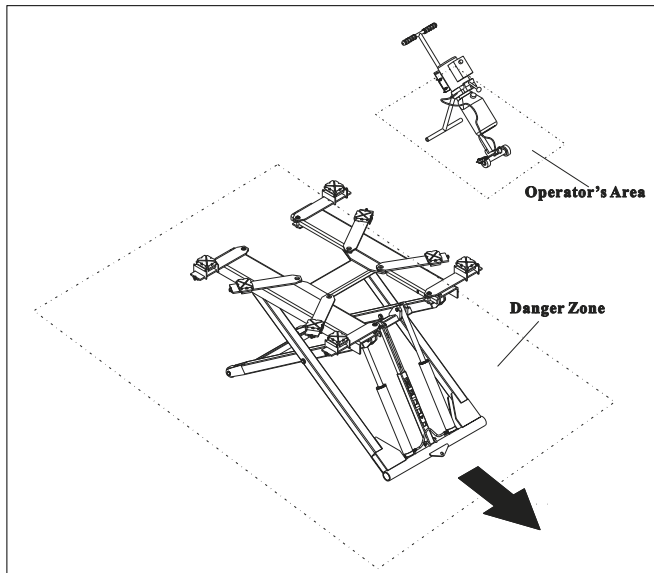

Fig. 3
- Do not enter the danger zone when vehicles are being lifted. *(Fig. 3)*
During up and down operations, no person is admitted to work beneath the movable parts of the lift, should work in the safe zone. (Fig. 3)